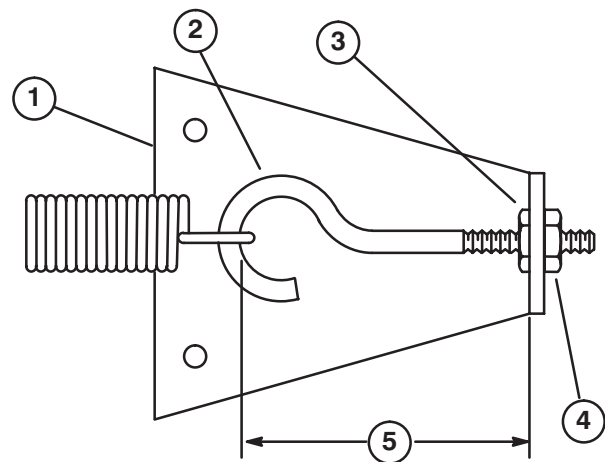

Figure 67
3. Loosen outer hex nut securing eye bolt to spring anchor plate (Fig. 67).
4. Rotate clockwise until distance between inside of eye bolt loop and inside of spring anchor plate is shortened 1/8 in., as shown in Figure 67. Tighten hex nut.